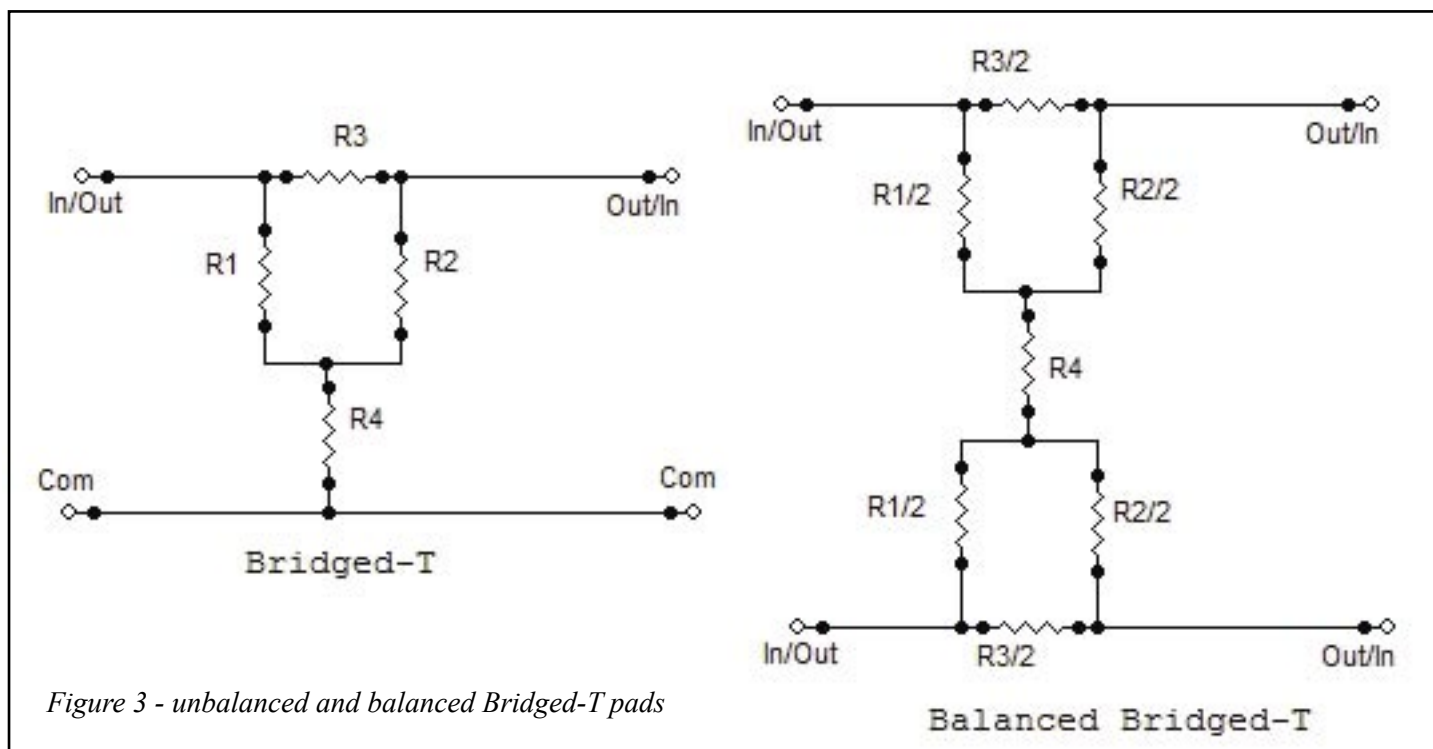

Figure 3 - unbalanced and balanced Bridged-T pads
**Bridged-T** pads look like a T-pad but with an additional resistor connected between the input and output (Fig. 3). A bridged-T pad only needs two variable elements to make it adjustable. The input and output impedances are always equal. This pad configuration is somewhat less sensitive to source and load impedance errors. Bridged-T pads reflect impedances symmetrically and may be used in either direction.